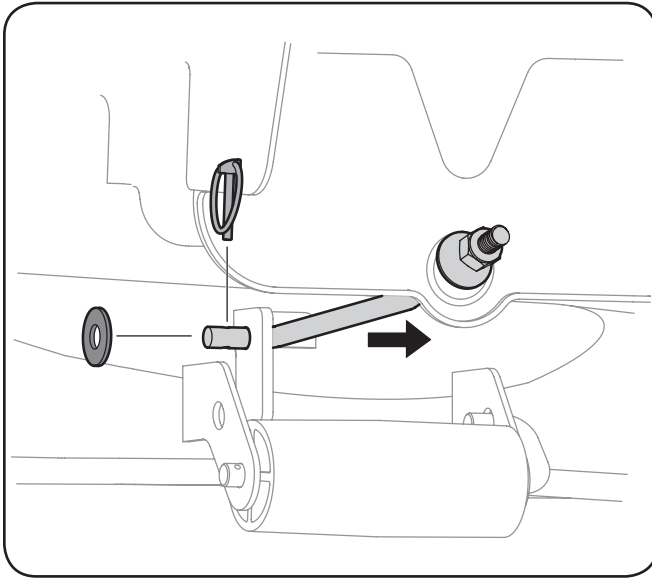

Figure 7-4
8. Remove the cotter pin from the end of the stabilizer rod and slide the stabilizer out of the hanger bracket on the deck. See Figure 7-4.